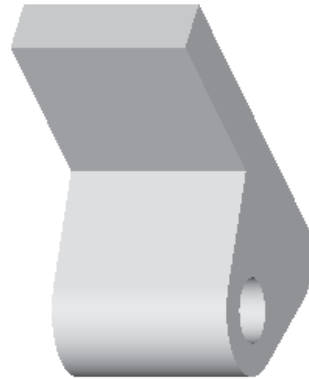

Figure 5-62 The default trimetric view of the base feature
- b. Select the sketching plane for the base feature, draw the sketch using the sketcher tools, apply the dimensions and constraints, and then extrude the sketch to the given depth, see Figure 5-62.
8. Enter a value of **86** in this window and press ENTER. Choose **OK** from the **PROTRUSION** dialog box. The base feature is completed. The default trimetric view of the base feature is shown in Figure 5-62.